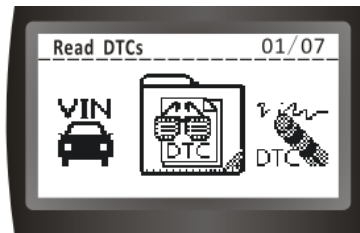

Figure 21
8. After a few seconds, the screen will change to: wait the Scan Tool will retrieve and display any Diagnostic Trouble Codes, Freeze Frame data Live Data....from the vehicles computer memory. (Figure 21)